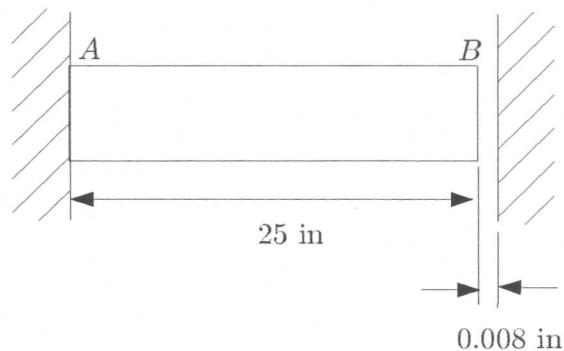

Figure 4.
4. A copper bar AB with the length of 25 in is placed in position between walls. At room temperature 76° F , end A is rigidly bonded to the wall and there is gap of 0.008 in. between end B and wall as shown in Figure 4.